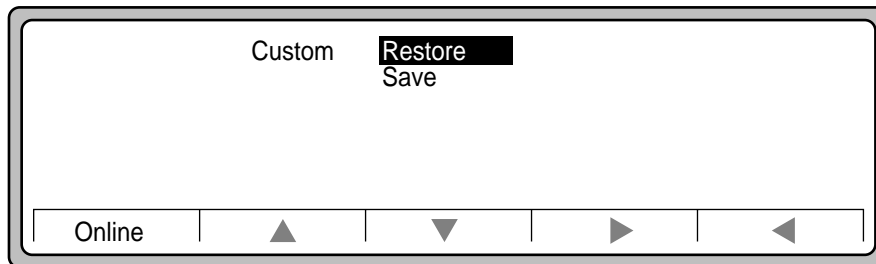

Figure 2-10 Custom Menu
1. On the Main Screen, press Custom to display Figure 2-10:
3. Use ▲ or ▼ to highlight the Save or Restore (Figure 2-10).